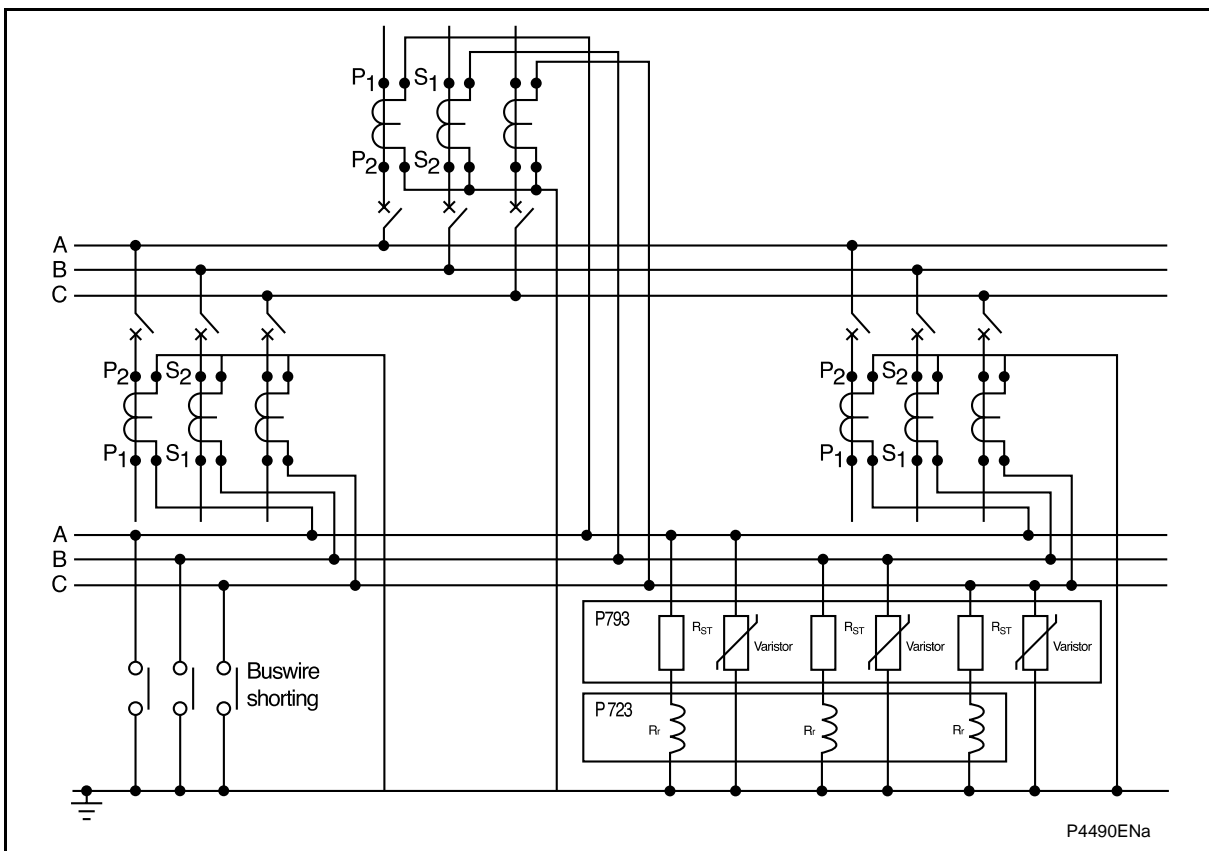

FIGURE 10: BUSWIRE-SHORT CONTACTS TO LIMIT POWER DISSIPATION WHEN USED WITH P79X
The P79x is an integrated stabilizing resistor and varistor unit enclosed in a 20TE case that may be used in high impedance differential schemes. Three options of stabilizing resistances are provided. Each option provides four resistance values that are determined by connection. Schneider Electric has developed a spreadsheet tool to assist in determining which resistance is suitable for a given application. This tool is available on request. **When using the P79x, it is important to limit the power dissipated in the resistance once the differential (87) or the buswire supervision (95) operates. To limit the power dissipation, the contacts configured as Buswire-Short should be wired in parallel to the high impedance path (only the stabilizing resistor in the case of the P72x), as shown in FIGURE 10.** Please refer to the P79x documentation for further information.
**When using the P79x, it is important to limit the power dissipated in the non-linear resistor once the differential (87) or the buswire supervision (95) operates. To limit the power dissipation, the contacts configured as Buswire-Short should be wired in parallel to the stabilizing resistor. Since the P72x represents a low burden, when the Buswire-Short contacts are closed, the non-linear resistors are shorted as shown in FIGURE 10. For further information, please refer to the P79x documentation.**